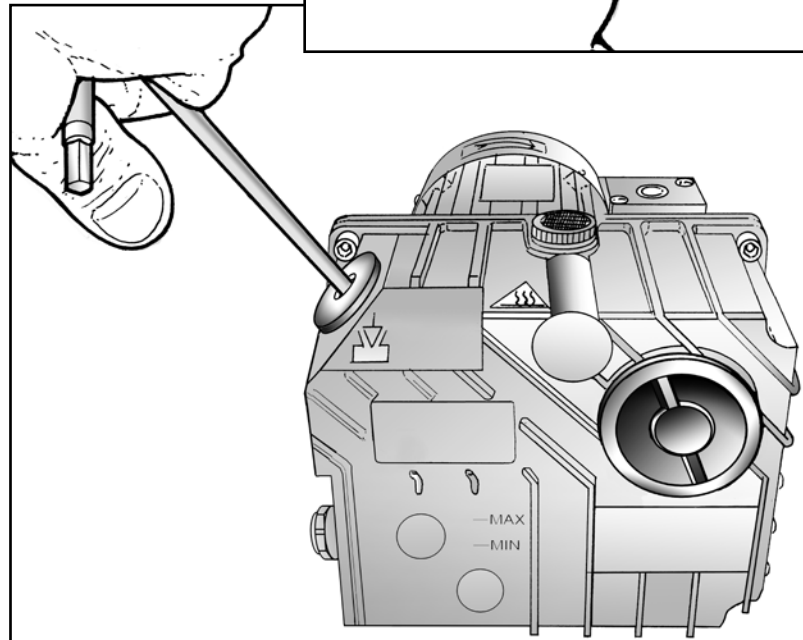

Fig. 14
- 8) Place a sufficiently large container (0.5 L) near the drain hole (Fig. 14). Using the same Allen wrench, unscrew the drain cap and leave the oil to flow into the container for about 10 minutes.